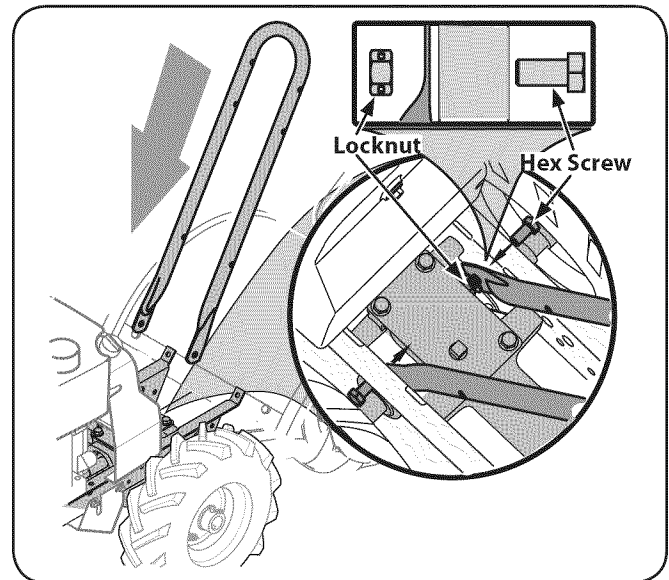

Figure 3-1
1. Loosely attach the legs of the handlebar support to the inner sides of the tiller frame. Using two $\frac{5}{16}$ "-18 x $\frac{3}{4}$ " hex head screws and $\frac{5}{16}$ "-18 hex locknuts attach the handle through the hole in the frame closest to the engine. See Fig. 3-1.